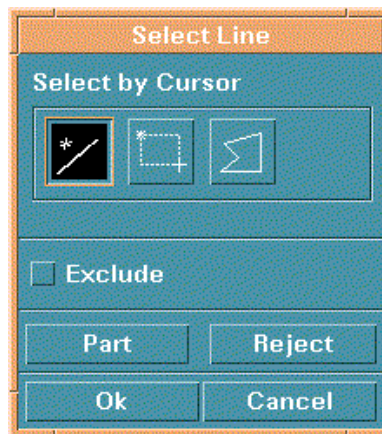

Figure 4.3.2 Select Line
- Select LINE(S) and the SELECT LINE dialog window is displayed. See Figure 4.3.2.